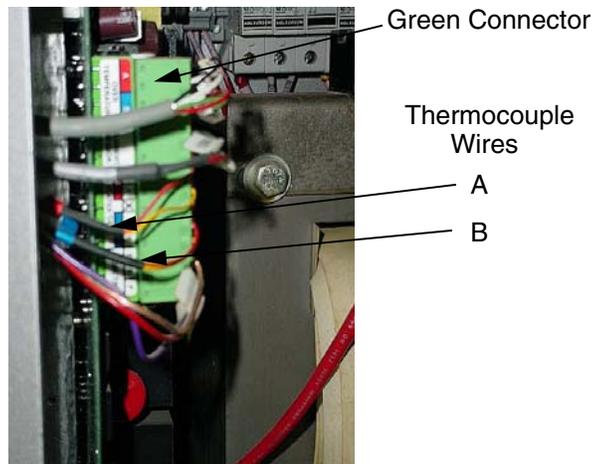

**FIG. 6: Dual U-tube Heaters**
- b. *Dual u-tube heater.* Each pair is connected to one set of tubes. See FIG. 6.
- Unplug blue jumper wires from the overtemperature switch. Discard wires. See FIG. 5 and FIG. 6.